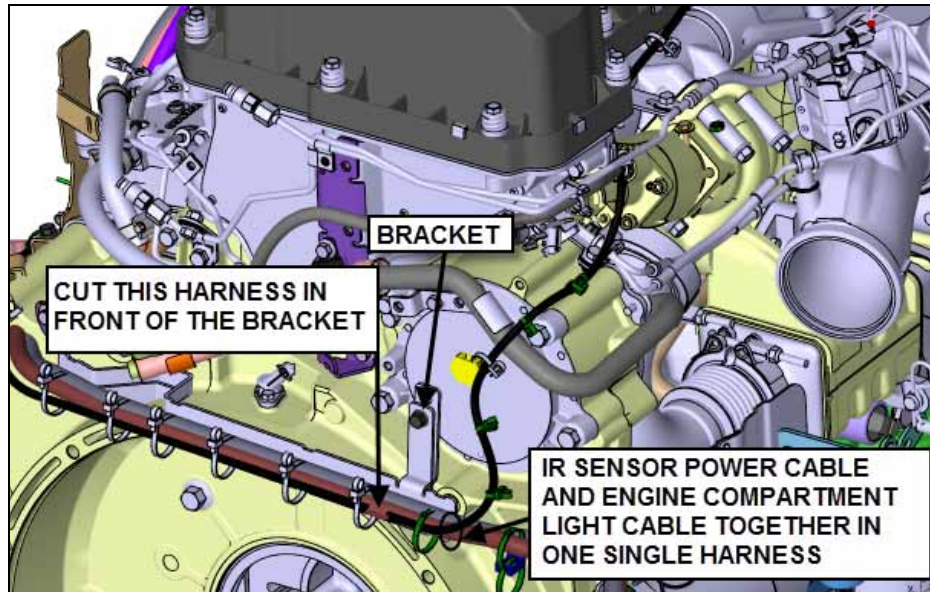

FIGURE 12: CUT THE HARNESS CLOSE TO THE BRACKET
- 13) The engine compartment light power cable and the existing IR sensor power cable are joined together in one single harness. Locate this harness and cut it close to the bracket shown on figure 12. The section of this harness that is tied to the IR sensor support (routed on the turbo side) is to be discarded.